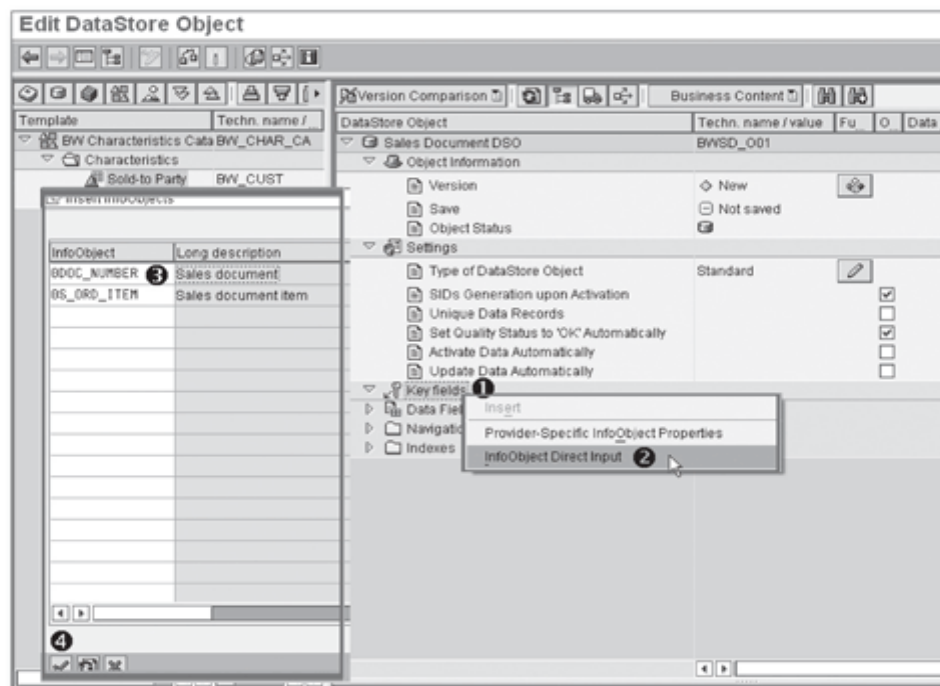

Figure 4.12 Edit DataStore: Direct Input
If you already know the technical names of the InfoObjects you want to include in the design of your DSO, you can use this method. Referring back to our case study scenario, the key fields of DSO BWSD_001 are Sales Document Number (InfoObject 0DOC_NUMBER) and Sales Document Item (InfoObject 0S_ORD_ITEM). Because the names of these InfoObjects are already known, we can use the direct input method. Select the key fields as shown on ❶ of Figure 4.12. Using the context menu, select the INFOOBJECT DIRECT INPUT option (❷).
Type the technical name of the InfoObjects you want to include as key fields of the DSO. Enter "0DOC_NUMBER" and "0S_ORD_ITEM," as shown in ❸ of Figure 4.12, and press Enter. (SAP NetWeaver BW automatically checks the entered InfoObject names and shows the long description if they are validated correctly.) Now click on the Continue icon (❹).